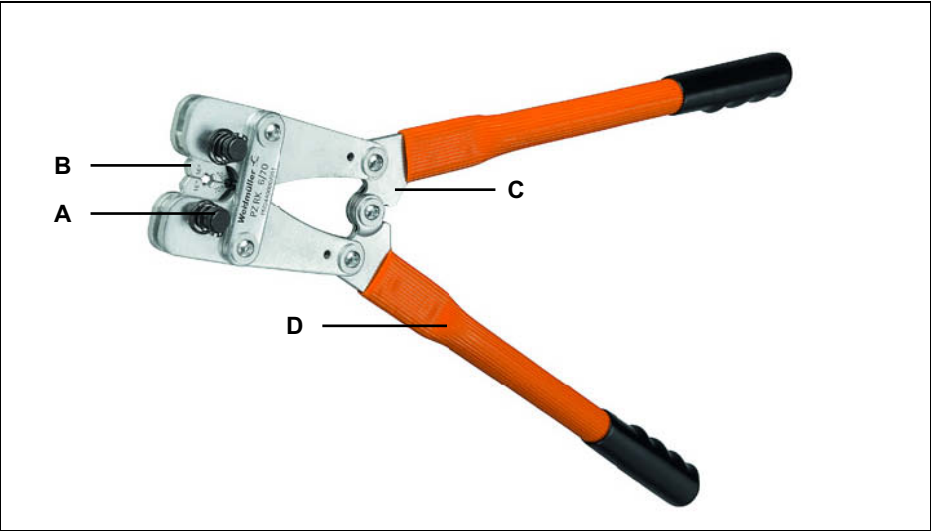

Figure 4 Components
- 4 Now squeeze the bars together until the tool toggle levers (see Figure 4 on page 26) lie completely together.